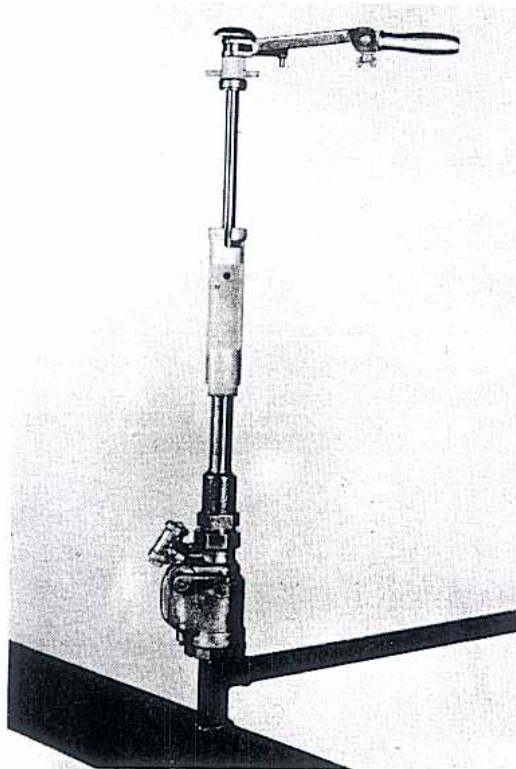

FIGURE 12
6. If using a control chamber place the drilling machine on the control chamber and tighten the body of the machine directly into the top of the control chamber. Be sure "O" ring is in place, lubricated and in good condition. FIGURE 12.